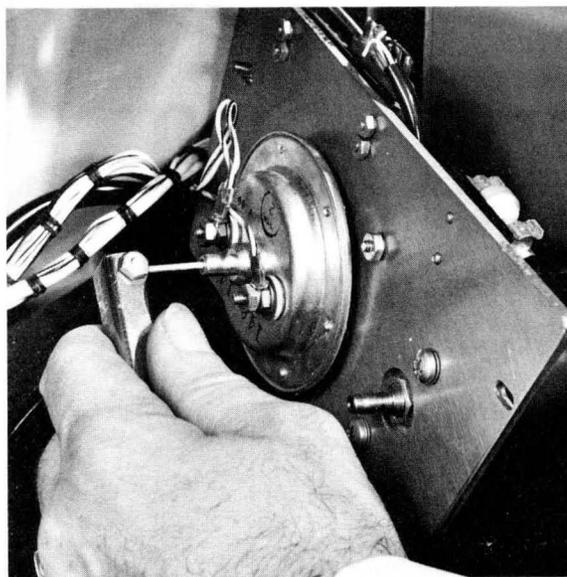

Figure 4-10.
Step 3: Observe the indication of the voltmeter. If a voltage is present, the switch contacts are open as they would be in the case of a long loop, short loop, or vacuum failure, and the switch must be adjusted. (See Step 9 and Figure 4-10.)